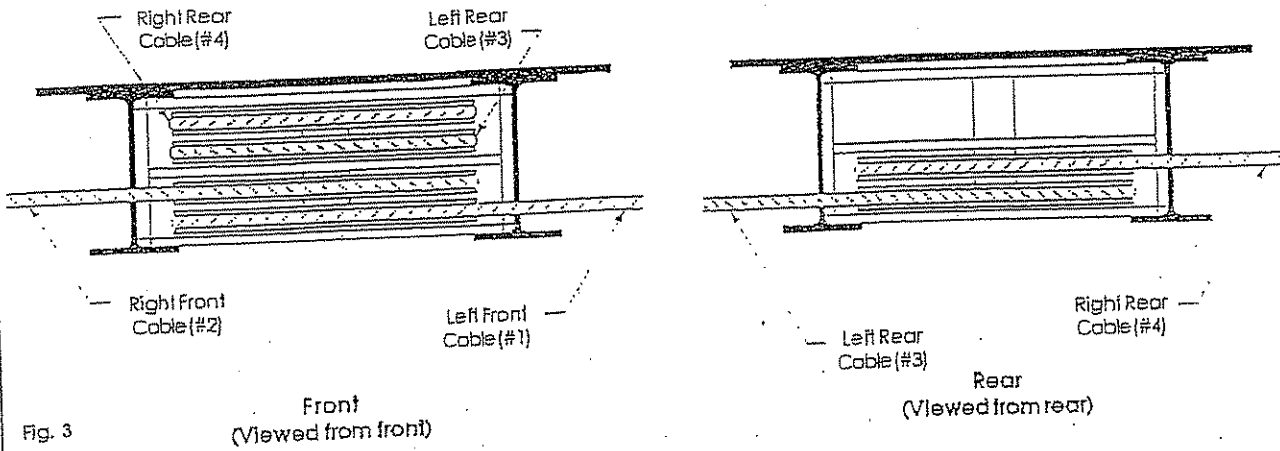

Fig. 3
- B. Position left runway in bay with hydraulic cylinder hose connection to rear of bay. Cables and sheaves are pre-assembled in runway. Runway needs to be up off floor so shipping restraints can be removed from cable ends, air and hydraulic lines, and cylinder rod. Pull cables, air and fluid lines out for assembly. Make sure cables are in proper sheave grooves, Fig. 3.